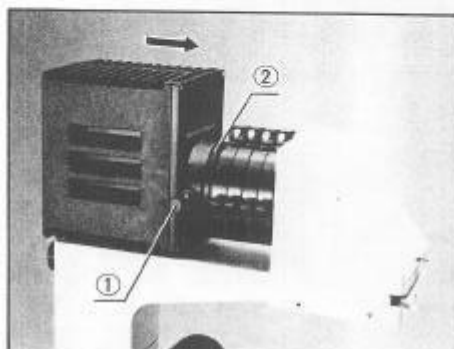

Fig. 10
Loosen clamping knob ① of the lamp housing and connect the lamp housing to the collector lens sleeve ②, and clamp. (Fig. 10)